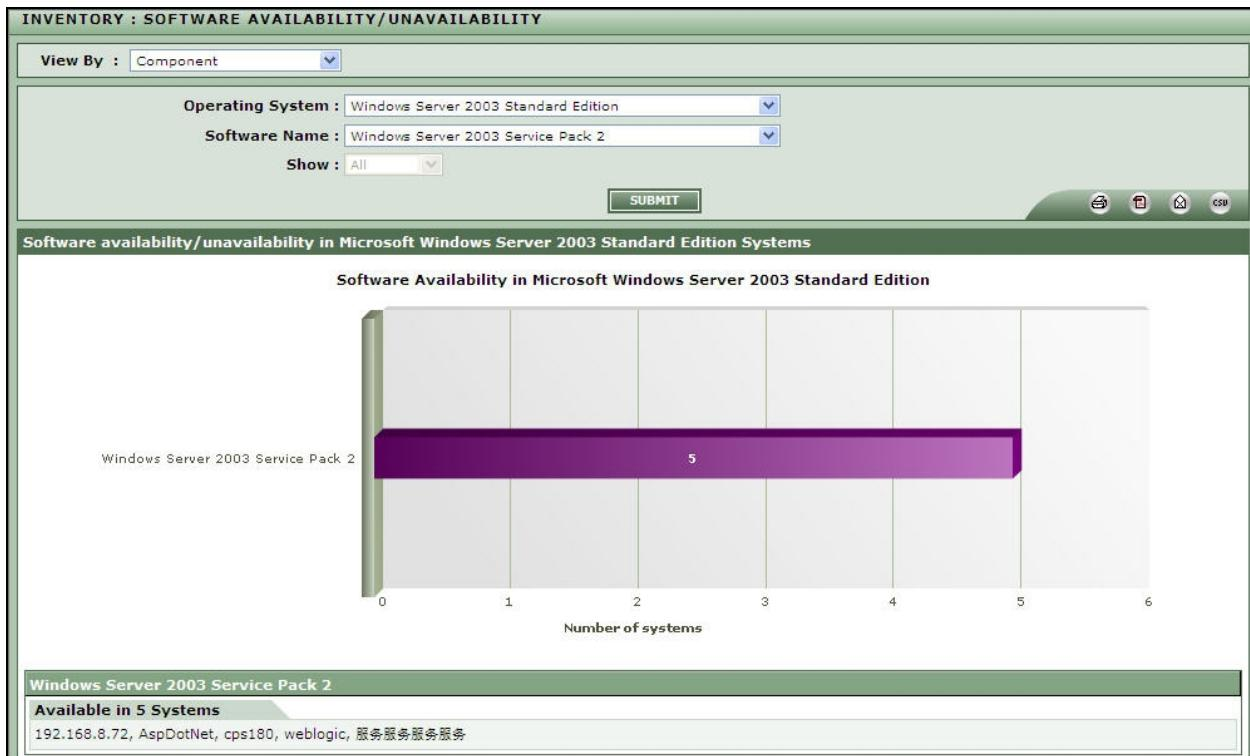

Figure 2.13: Viewing inventory for a specific software
1. Select an operating system (OS) from the **Operating System** list as depicted in Figure 2.13. To set the desired OS to be displayed by default in this page use the menu sequence **Settings -> Display** and provide the required OS name in the **Operating System** for **Software/Service/Hotfix availability** page.
3. Upon selecting specific software from the **Software Name** list box, **All** option will be selected in the **Show** field. (see Figure 2.13)
6. Below this graph, you will also see a table providing the entire list of systems, on which the selected software is available/unavailable as depicted in Figure 2.13.